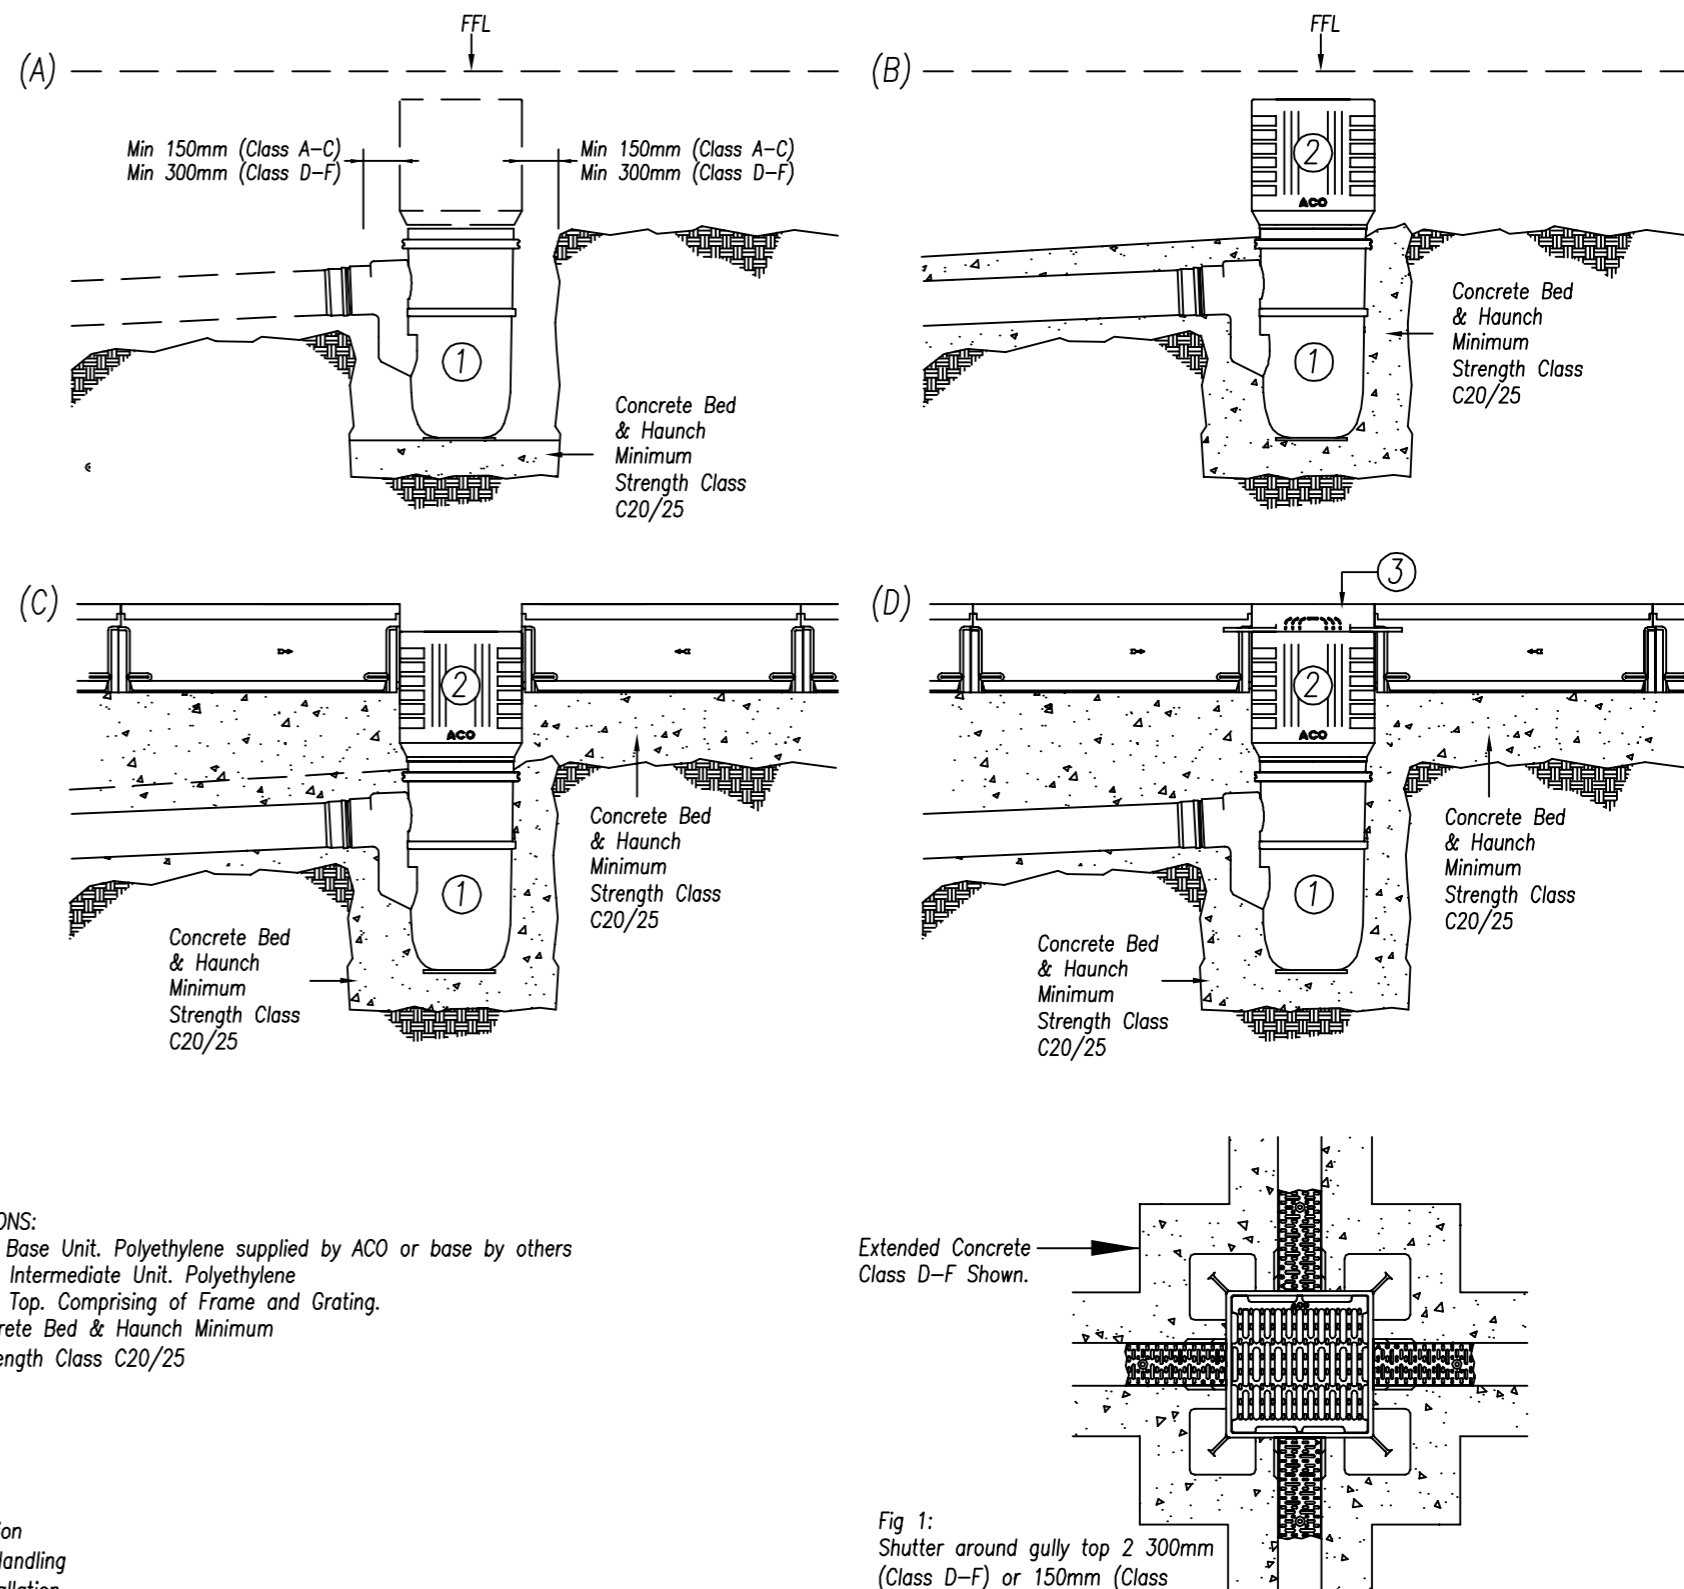

Fig 1:
(C): Concrete\* bed for channels allowing levelling mortar bed if required. Extend concrete bed around unit ② (see fig 1). Install channels (see separate channel installation recommendations) with taped external joints at junction of unit ② and end of channels.